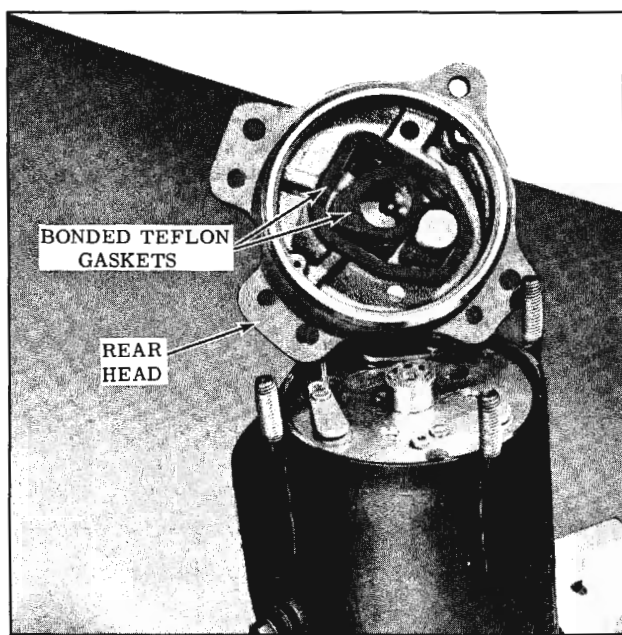

Fig. 15-64 Rear Head Removal
3. Remove the rear head, inspect teflon gaskets on the casting. If teflon gaskets are damaged, replace the rear head. (Fig. 15-64)